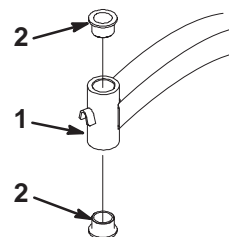

Figure 68
4. Insert a pin punch into the mounting tube and carefully drive out the bushings (Fig. 68). Clean the inside of the mounting tube.